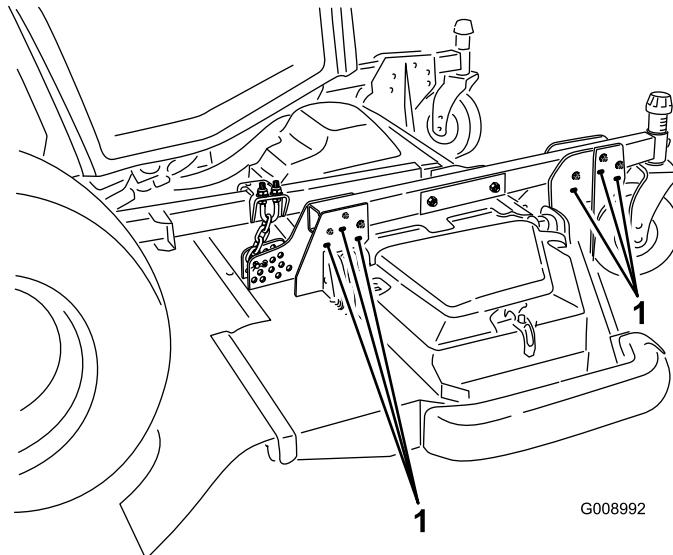

Figure 27
- To attain the 5 to 6 inch (102 to 153 mm) height of cut settings, remove the mounting bolts securing the deck hanger brackets to the height of cut castor arms and remount the deck hanger brackets to the height of cut castor arms using the lower set of holes (Figure 27).